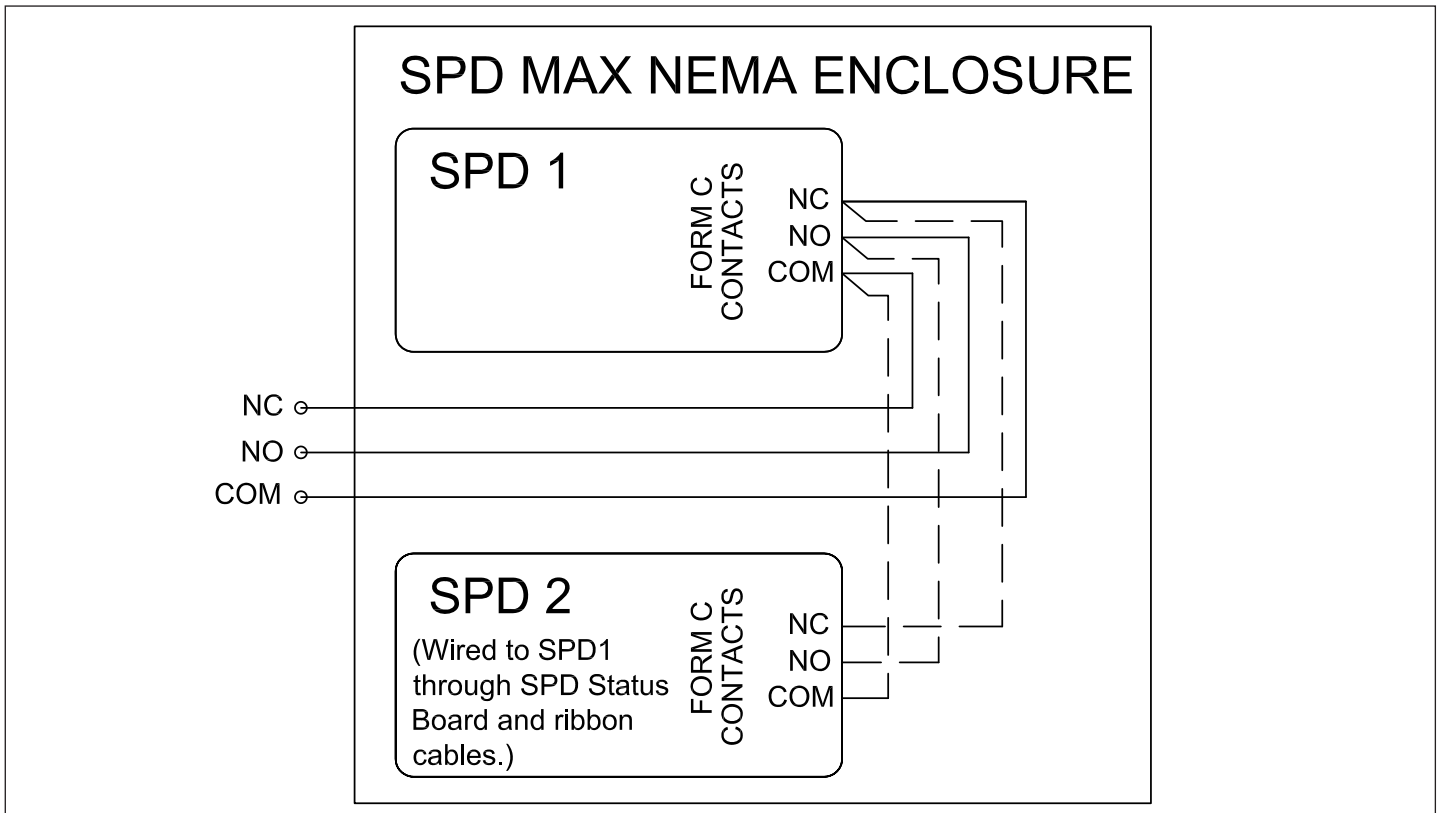

Figure 2. Typical Form C Wiring Connections
8. Standard with Surge Counter devices also provide wiring for Form C relay contacts. This connection can be used for remote monitoring of the SPD. The Form C contacts are rated max 0.46 A, 150 Vac, 1A, 30 Vdc.* **Note:** when a SPD Max contains two SPD modules the user can connect their Form C wires to either SPD1 or SPD2. There is no need to wire to both units as they are wired together through the SPD Status board and two ribbon cables. (See Figure 2). Follow all national, state and local electrical codes when making these connections.